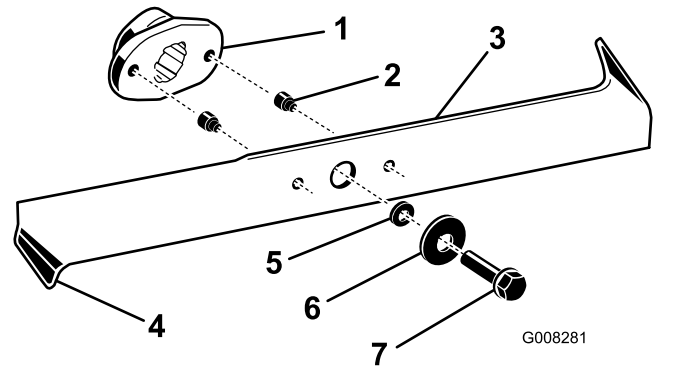

Figure 37
2. Inspect the cutting edges (Figure 37). If the edges are not sharp or have nicks, remove the blades and sharpen them; refer to Sharpening the Blades \(page 31\).
3. Inspect the blades, especially the bent edges (Figure 37). If you notice any wear or damage in this area, immediately install new blades.
4. If the shear pins are broken, replace them immediately (Figure 37).
3. Remove the bolts, washers, and blades (Figure 37). Wedge a block of wood between each blade and the mower to lock the blade when you are removing each bolt.
1. Install the blades, washers, and blade bolts (Figure 37).